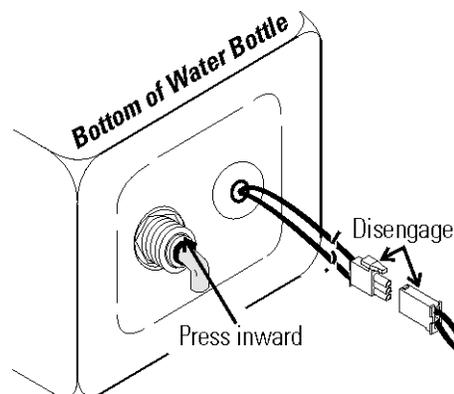

Figure 7-2. Drain Water Bottle
- Attached to the bottom of the water bottle is a length of tubing and low voltage wiring (Figure 7-2). Disconnect the tubing by pressing inward on the collar where the tubing connects to the bottle. Pull the tubing free. Disengage the wiring at the connector.
3. Connect the other end of the fitting to the quick-connect drain located below the fold-down storage door. See Figure 7-2. With the incubator turned On, allow the entire humidity system to drain. This could take several minutes.